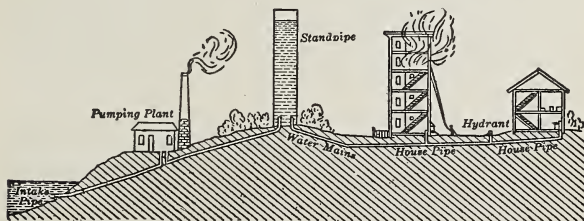

Fig. 79.—Cross Section of a Water System
4. Explain the use of the "stand pipe" in Figure 79.